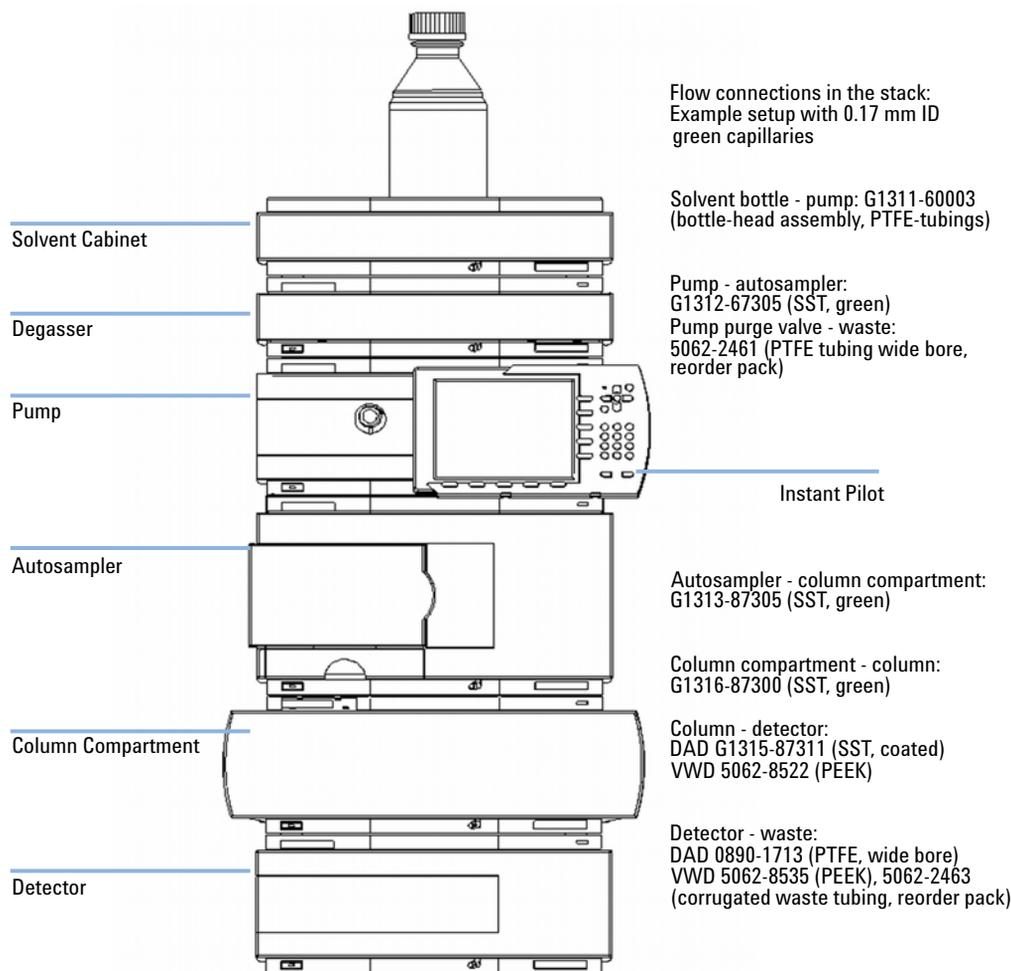

Figure 5 Recommended Stack Configuration (Front View).
- 1 Place the individual modules in a stack configuration as shown in Figure 5 on page 28.
- 1 Place the vacuum degasser in the stack of modules as shown in Figure 5 on page 28.